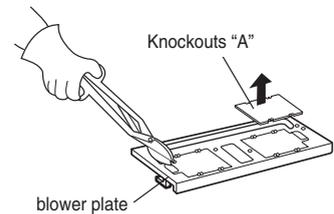

Figure 22 (Optional)
5. Use side cutter or tin snips to cut and remove knockouts "A" from blower plate. Discard knockouts. Be careful not to distort the plate. See Figure 22.